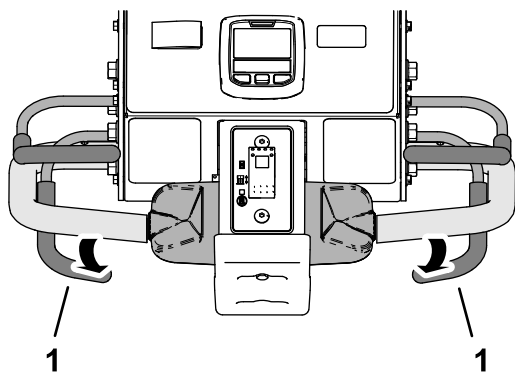

Figure 95
- Release the aerate bail (Figure 95).